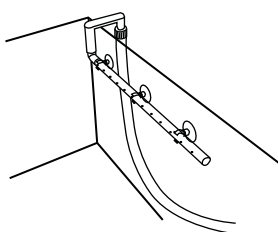

Fig 6
18. Repeat steps 14 to 17 for the outlet. Fig 6